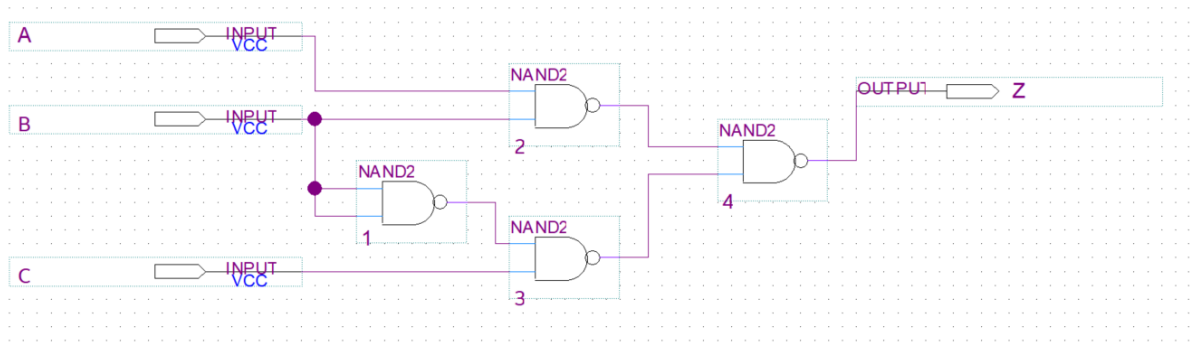

FIGURE 4: Logic Diagram for 2-to-1 MUX with NAND Gates
Equation (1) shows the minimum SOP expression for the K-MAP in *FIGURE 2*, however it cannot be implemented using only a quad-NAND gate unless De Morgan's Law is applied, as is the case with this lab. Equation (2) therefore shows the correct logic expression so that the circuit can be expressed using only NAND gates. *FIGURE 4* shows a simplified logic diagram for the circuit and was included for the purpose of understanding the functionality of a 2-to-1 MUX and to identify where the static-1 glitch occurs. The actual logic diagrams with the 7400 chips used to build the circuit can be found in the **Logic Diagrams** section.
From a deeper analysis of the oscilloscope data, the static-1 glitch occurs exactly at the moment that the selector signal **B** changes its value from 1 to 0, changing the output to reflect signal **C**. The logic diagram in *FIGURE 4* gives a more detailed analysis on the static-1 hazard and exactly where and when it occurs. In the current scenario, the input signals **A** and **C** were both set to 1. The selector bit **B**, was also set to 1, resulting in the 2-to-1 MUX outputting the signal **A**. However, when **B** changed positions (the yellow line changes from high to low), the purple line momentarily drops to low, outputs 0, before returning to its steady state where it outputs signal **C**, which in this case is also 1. This error in the circuit occurs because when **B** changes its signal, the 0 signal is driven through NAND gate 2 where it is then forwarded to the top input of NAND gate 4. However, in the bottom of the diagram, the 0 signal from the original switch has to go through NAND gate 1, before it is driven through NAND gate 3 which outputs a 1, and then finally catches up to the other signal at NAND gate 4. So as seen from *FIGURE 4*, there is a slight moment where the circuit outputs the incorrect signal because the switch from **B** was not propagated throughout the circuit at the same rate.